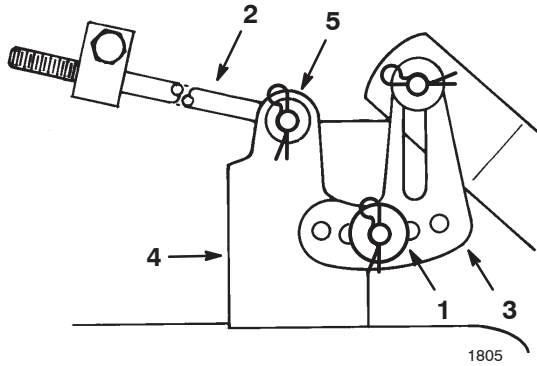

Figure 44
8. Slide the end of the long rod through the hole in the mower mount (Fig. 44).
9. Install the thin washer and hairpin cotter to secure the rod in place (Fig. 44).
10. Mount the slotted mower leveling bracket onto the pin on the mower mount (Fig. 44).
11. Install the thick washer and hairpin cotter to secure the mower (Fig. 44).